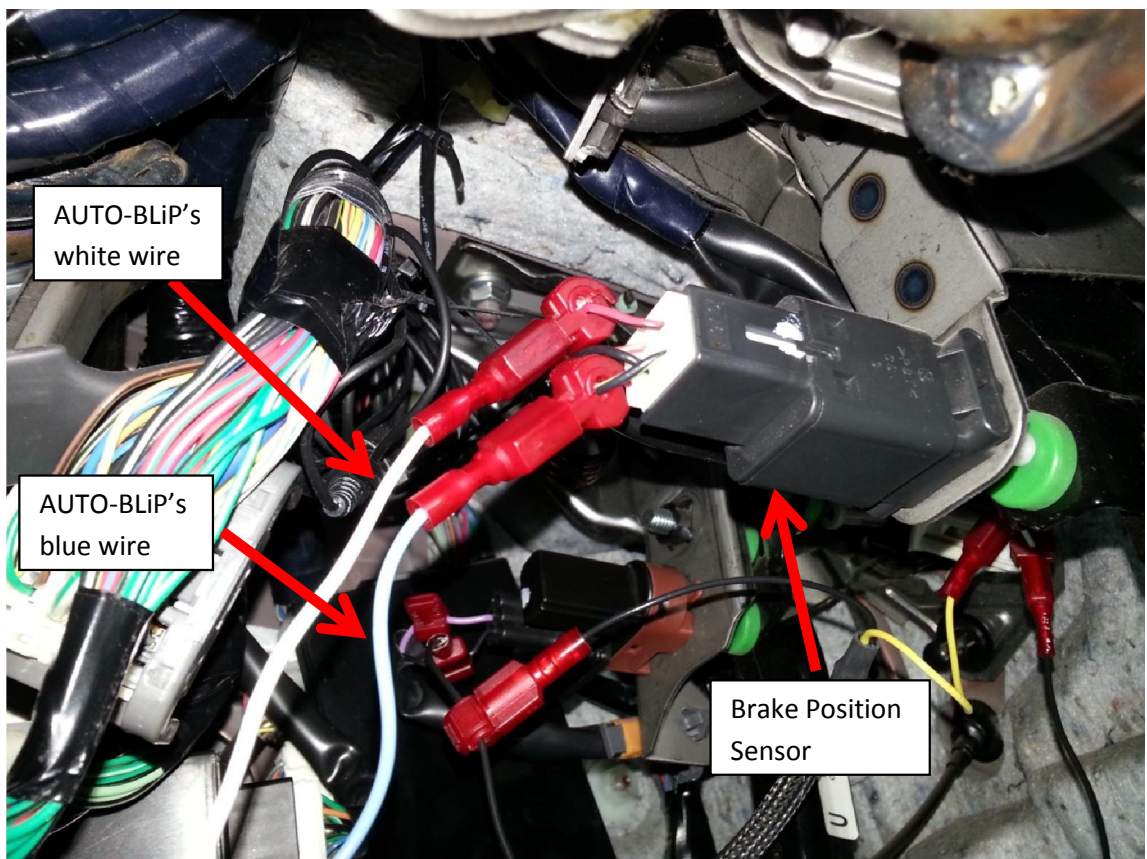

Figure 3 (Brake Sensor wire tabs placement)
5. Locate Brake Position Sensor (Figure 3)
6. Attach supplied wiretap to the **red/black** wire on the brake pedal sensor (Figure 3).
8. Attach supplied wiretap to the **black/yellow** wire on the brake pedal sensor (**Figure 3**).